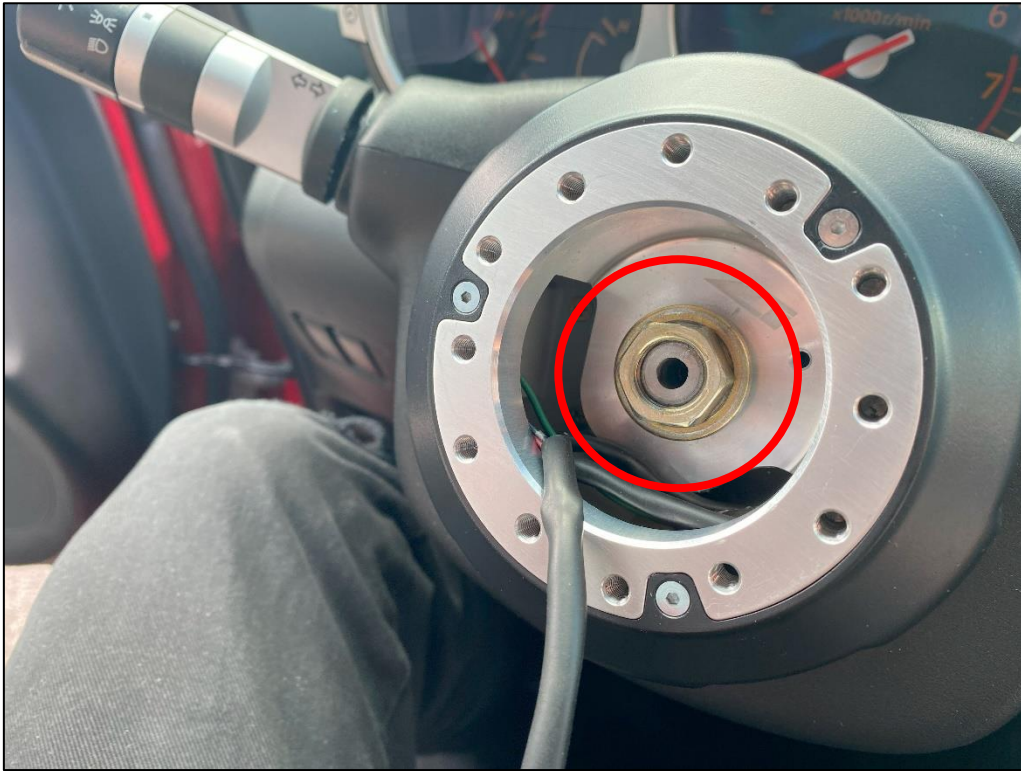

Figure 8
14. Reinstall the OE Nut removed in Step 10 to the Steering Shaft. Torque to **25 ft-lbs.** Figure 8.